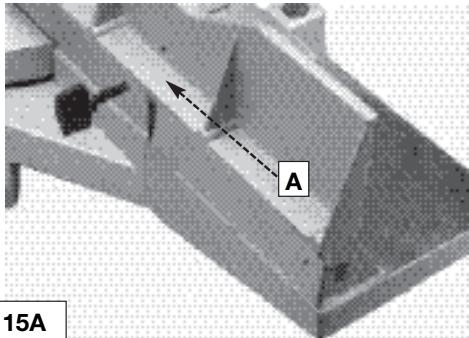
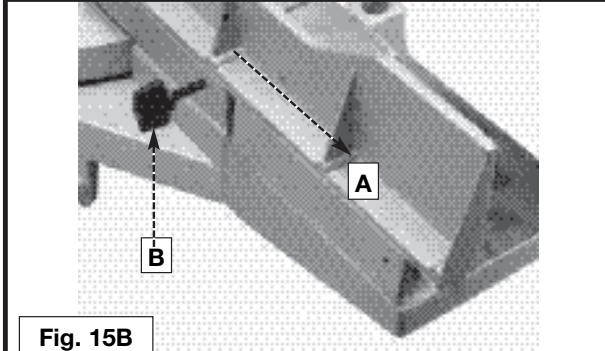

Fig. 15A
Fig. 15B
The sliding fence (A) Fig. 15A provides support for extra large workpieces used with your saw. Set it as close as possible to the saw blade. When miter cutting (blade 90° to the table and at an angle to the right or left), set the fence all the way toward the blade (Fig. 15B). When bevel cutting, however (blade tilted at an angle to the table), move the fence (A) far enough away from the blade to allow for proper clearance. To reposition the fence, loosen the lock handle (B), and slide the fence (A) to the desired location. Tighten the lock handle (B).